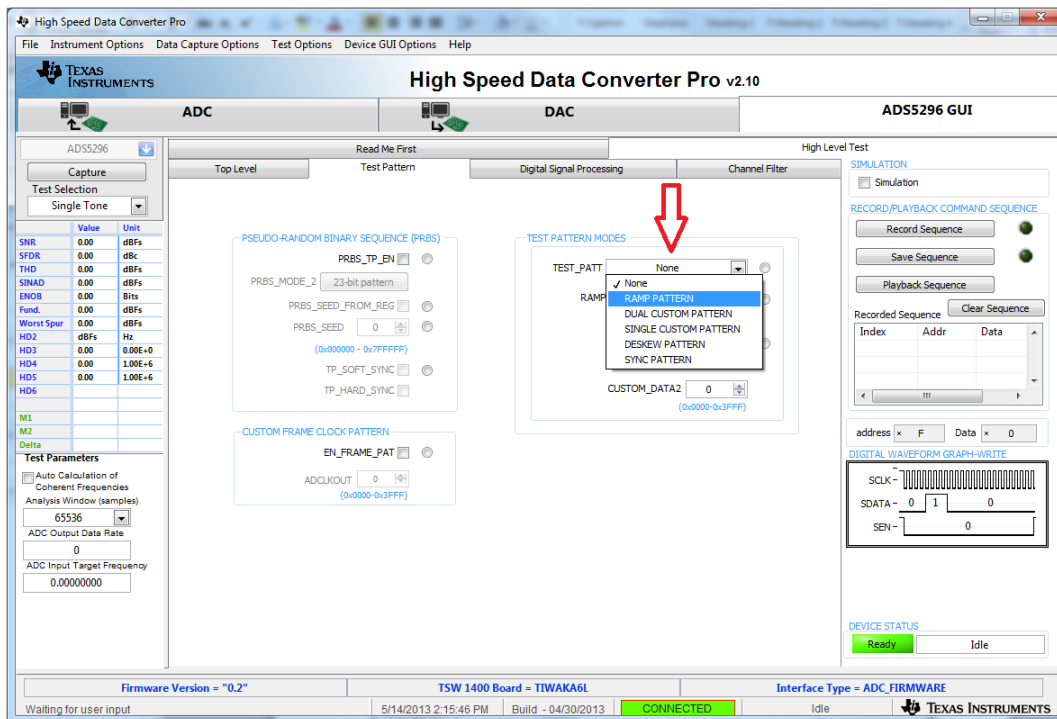

Figure 31. ADS5296 GUI Setup for RAMP Test
1. Press on the sub-tab labeled *Test Pattern* and select **RAMP PATTERN** within the **TEST_PATT** menu as shown in Figure 31.